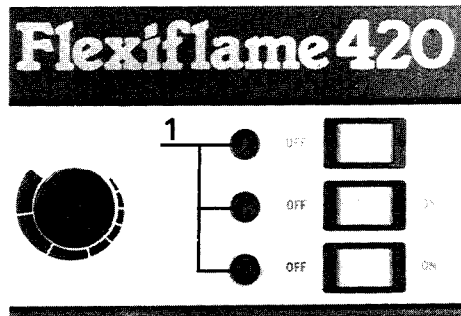

Fig. 30
- Using 6 mm wide blade screwdriver, push fuse holder (1, fig. 30) in and turn 90° anti-clockwise.